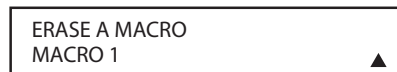

Figure 146.
4. The next display screen (**Figure 146**) is where you select which macro will be erased. Press the **Navigation Button**  until the number of the macro you wish to erase appears. For this example we will erase the Macro 1 that was created in the previous section. When the name of the macro to be erased appears, press the **Set Button** .